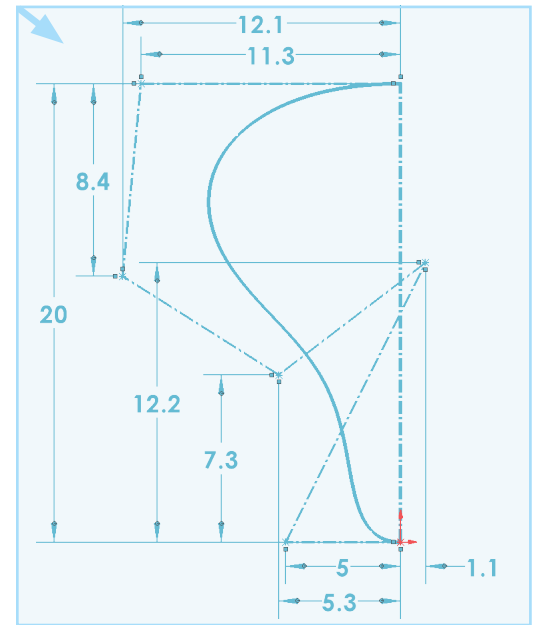

Fig. 7
Step 12. Drag a selection to select all geometry, **Fig. 7**.